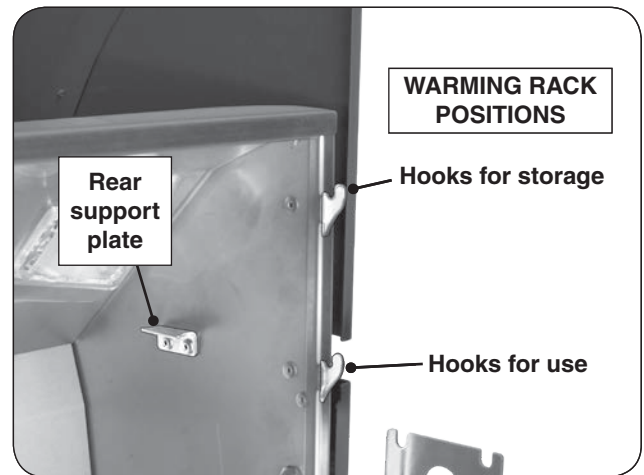

Fig. 23-2 Warming rack hooks
1. Locate the warming rack hooks and rear supports found on the upper portion of the grill oven (see Fig. 23-2).